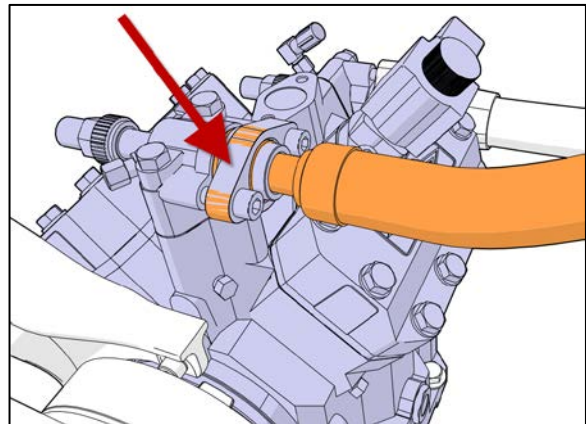

Figure 14
22. Torque flange screws to 31-35 lb-ft (42-47 Nm) (Figure 14).